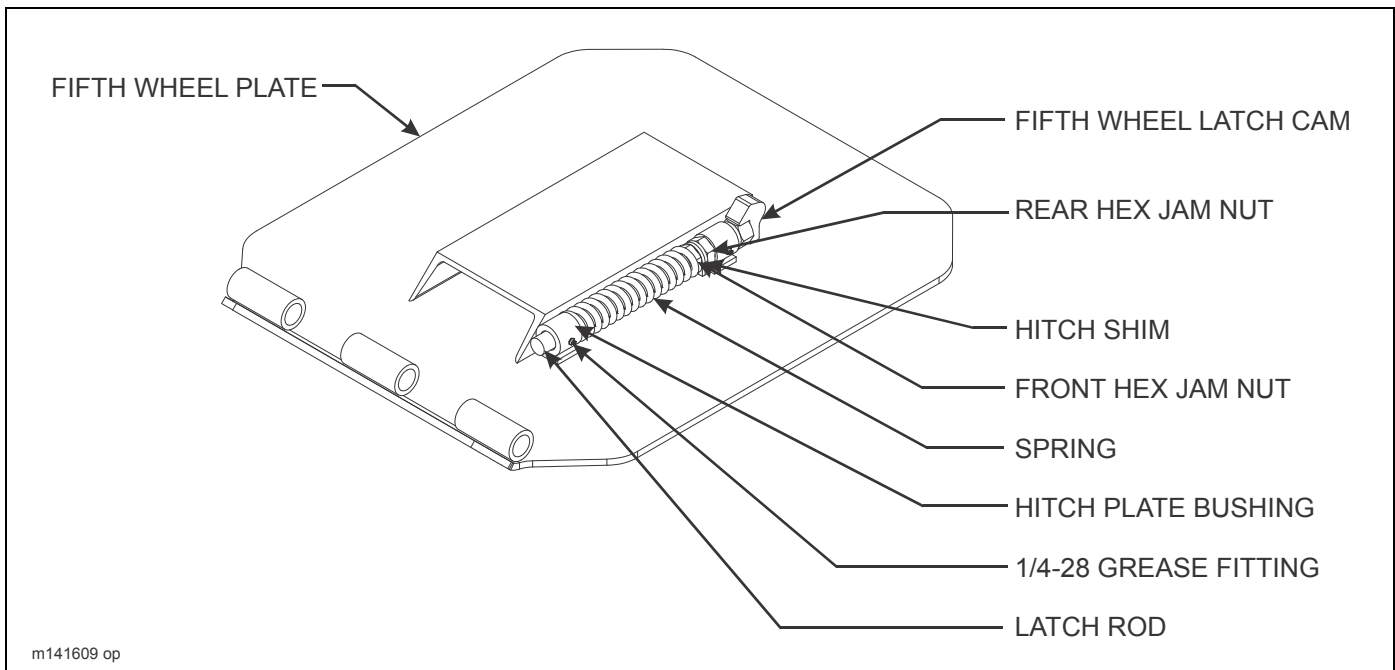

Figure 4-2: Fifth Wheel Latch Adjustment
1. To adjust fifth wheel latch assembly, support fifth wheel plate and adjust rear nut until the cam just touches the flat surface on the latch (**See Figure 4-2.**)